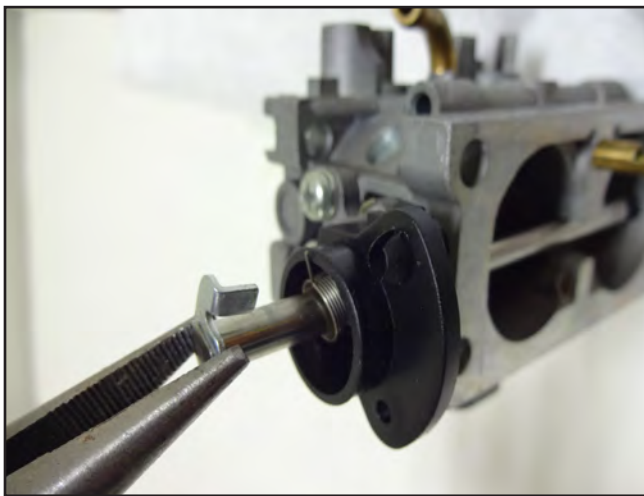

Figure 26
3. Insert the shaft through the spring and into the override and carburetor while rotating the shaft counter-clockwise to hook the spring end with the tang (Figure 26).